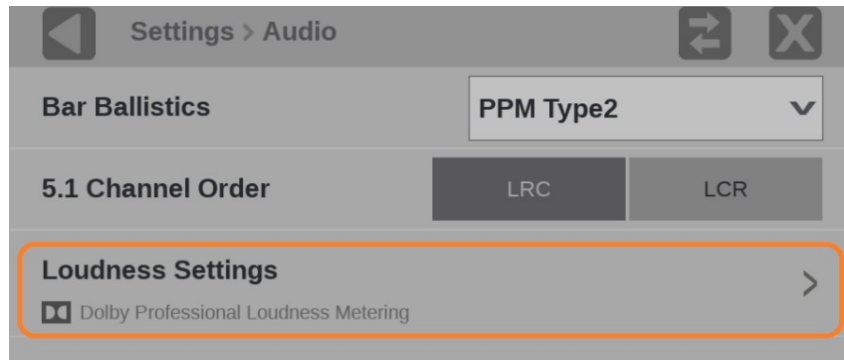

Figure 51: Audio submenu with the Loudness Settings marked
3. Select **Loudness Settings**. (See Figure 51.)